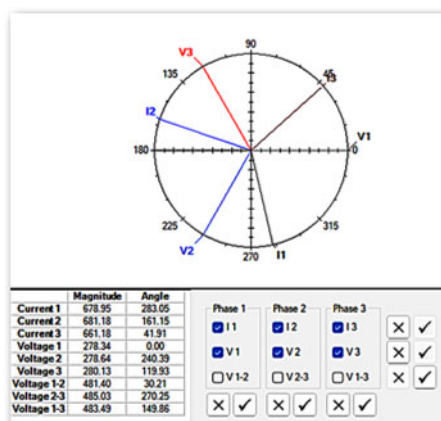

Figure 68: Power Phasor Diagram
3. The Power Phasor diagram appears with values for both Voltage and Current and looks similar to that shown in Figure 68.